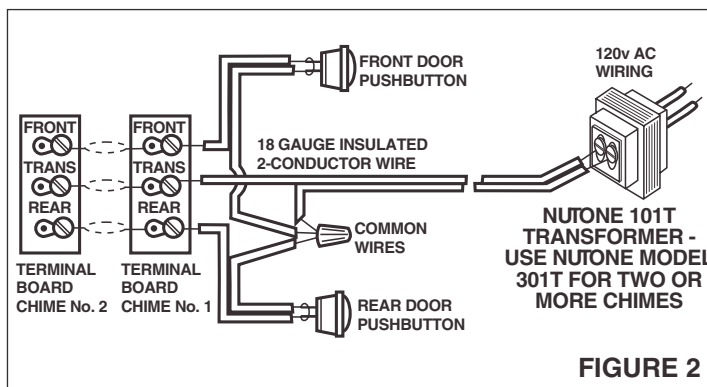

FIGURE 2
4. **Refer to Figure 2.** Bring wires into the mounting frame. Connect the transformer and pushbutton wires to the terminal board on the chime base plate.